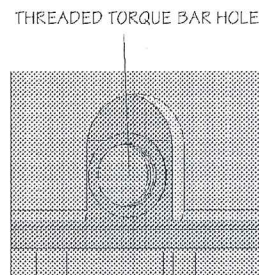

Figure 14. Torque bar hole detail
- c. Refer to **Figure 14**. Insert the 5-ft torque bars into the torque bar holes of the Running Tool. Rotate the Running Tool clockwise to ensure it is fully unlocked. The Running Tool could turn up to 1-1/2 turns depending on how it was left after its last usage. Excessive force is not required.